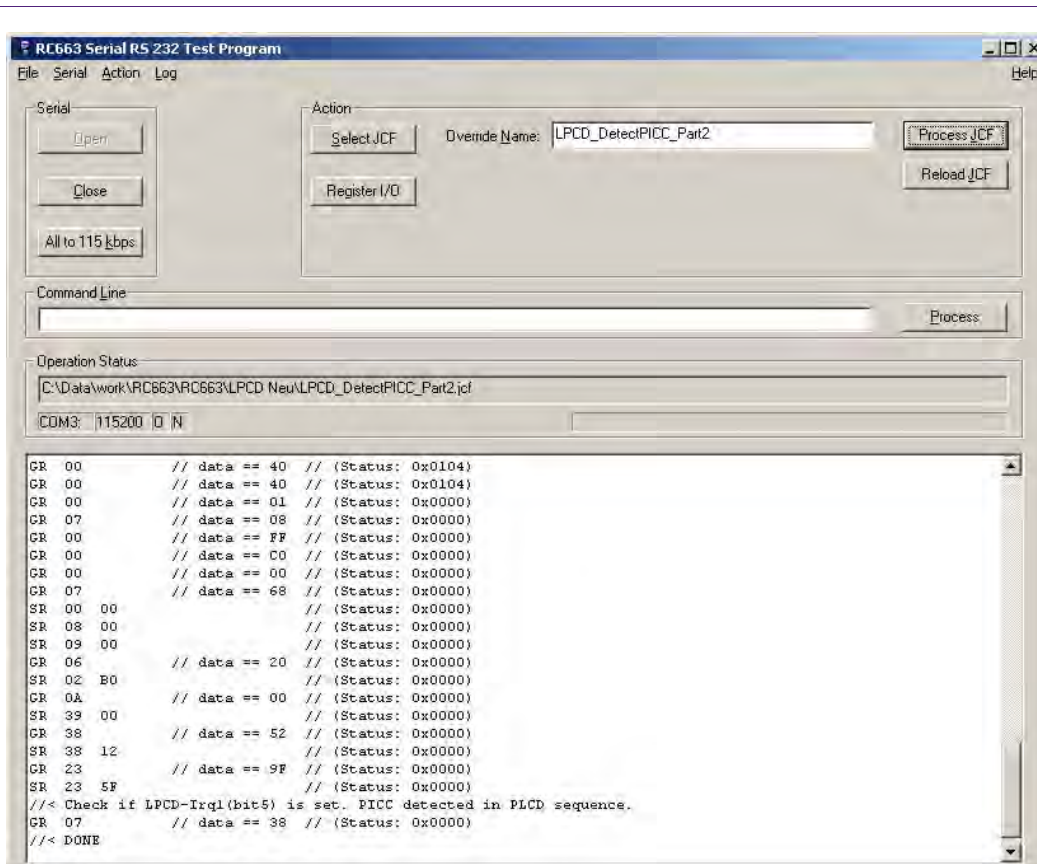

Fig 7. LPCD_Irq set
- A correct detection is indicated when bit5 (LPCD_Irq) in register 07 is set. See Fig 7 for more details.